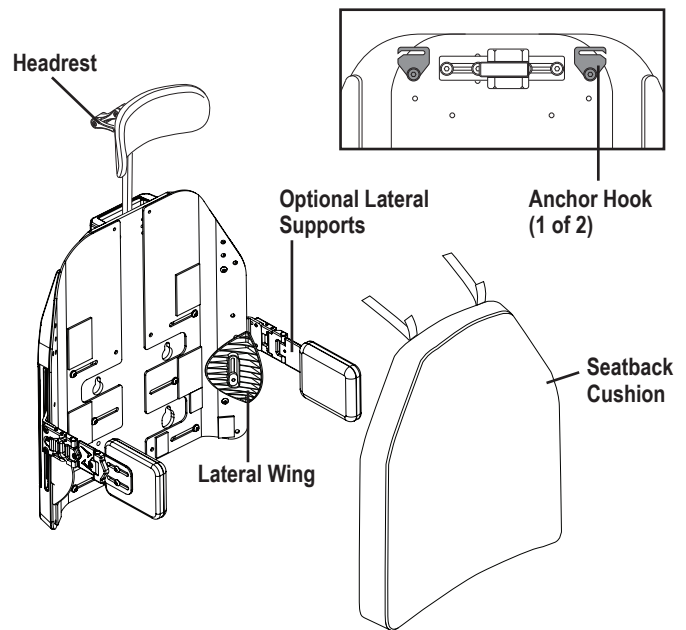

Figure 22. TRU-Comfort 4 Components
The TRU-Comfort cushion is a unique seatback that is available for user comfort and positioning needs. **Figure 22** provides information on the removable and adjustable TRU-Comfort components. Use these diagrams to familiarize yourself with the function and location of each component before using the TRU-Comfort cushion. **See figures 22 and 23** to identify which seatback is on your power chair.
1. Position the lumbar and thoracic support(s) as needed for user comfort and positioning flat side down and push onto the seatback. Position the lateral supports and lateral wings as needed and attach with hardware. **See figure 22.**
2. Position the seatback cushion so that the reusable hook and loop fastener straps face the seatback. Place the cushion over any lumbar, lateral, and thoracic support(s). Secure the cushion to the seatback by sliding the two (2) long loop fastener straps through the anchor hooks and pressing the two (2) short hook fastener straps against the longer straps. **See figure 22 or 23.**
1. Remove the seatback cushion from the seatback by detaching the reusable hook and loop fastener straps as well as the reusable fasteners that secure the cushion to the seatback, then pulling the cushion toward you. **See figure 22 or 23.**
6. Once the cover is dry, re-cover the seatback cushion, position the seatback cushion to face the reusable fasteners on the seatback. Secure the cushion to the seatback using the reusable fasteners on the seatback as well as the reusable hook and loop fastener straps. **See figure 22 or 23.**